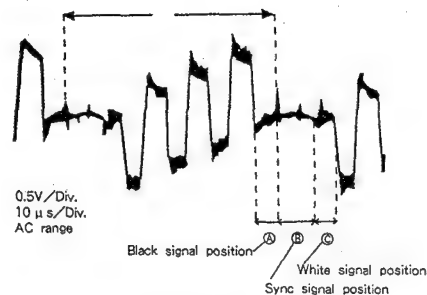

Fig. 3-3
- (4) Connect the oscilloscope to TP46B.
(5) B-Y adjustment
Adjust FL301 so the amplitude from black to white in periods ④ and ⑤ is the same as that of the sync signal as shown in Figure 3-3.